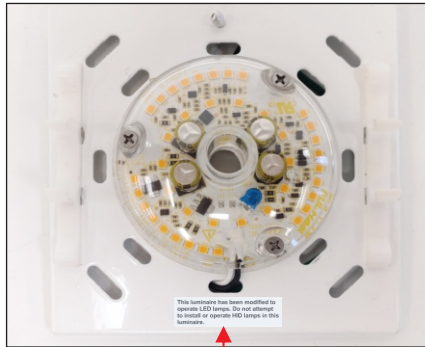

Figure 5
5. Place the provided Retrofit Label (E) on the outer areas of the luminaire where DirectAC Engine (A) was just installed. Labels must be clearly visible and should not be obscured by line voltage cables. See figure 5.
6. Completed assembly should look like figure 5.